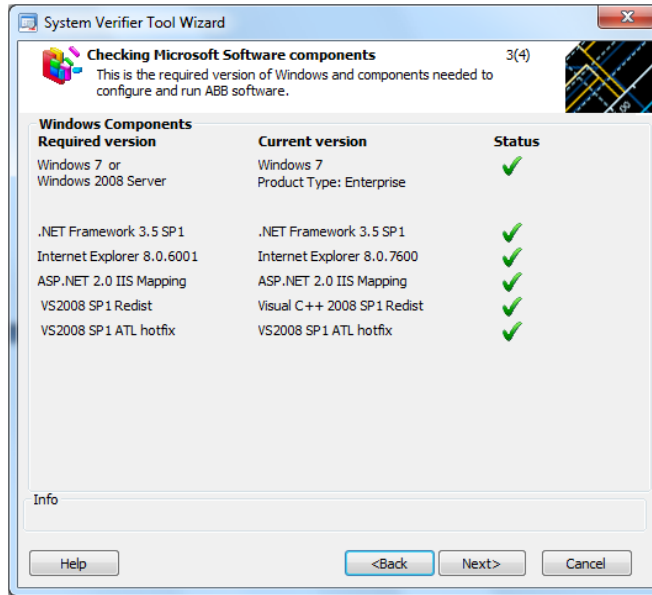

Figure 37. Checking Microsoft Software Components Dialog Box
1. After clicking **Next** in the Checking the Hardware dialog box, The Checking Microsoft Software Components dialog box (Figure 37) appears.